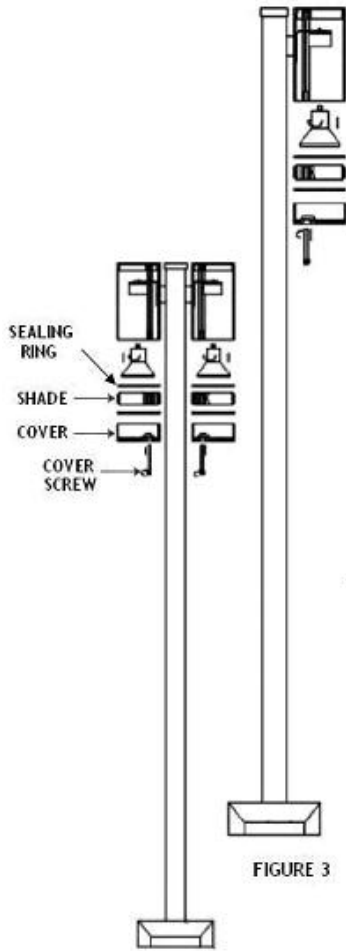

FIGURE 3
10. Unscrew the cover screws and remove the cover, sealing rings and shade. Fit the lamp into the lampholder. Reassemble the light fitting components (FIGURE 3).